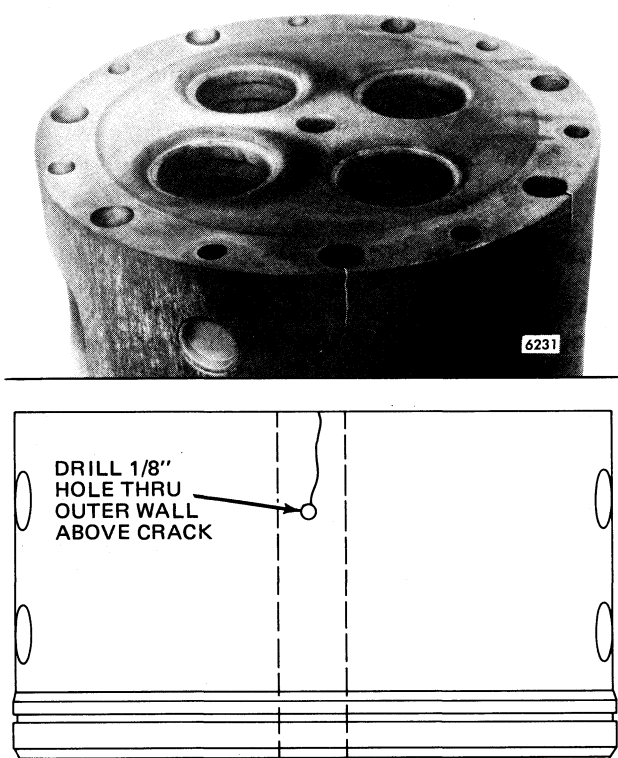

Fig. 6 - Outside Edge Bolt Hole Cracking (Head Reusable)
- a. Cylinder heads with outside edge bolt hole cracking can be reused if a 1/8" hole is drilled through the outer wall above the crack into the bolt hole (Fig. 6). This stops the progression of the crack.